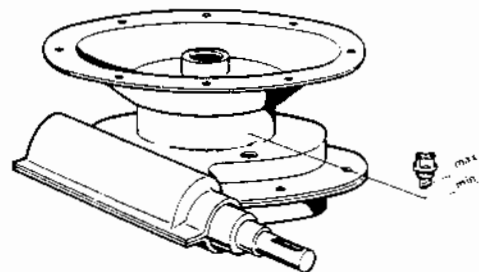

Fig. 8
- Check the oil level in the gearbox regularly (Fig. 8). Remove the side cover of the machine and unscrew the transmission filler cap. If it becomes necessary to add oil, use one of the following: